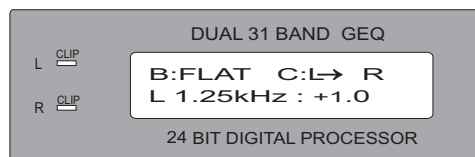
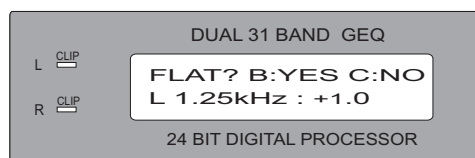
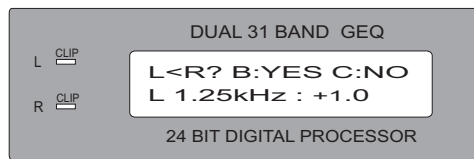

Fig.5 Editing select(Flat/Copy)
Fig.6 Flat respond setting
Fig.7 Copy function
5. Press button 5 during main menu (as Fig. 5) to enter Flat respond and gain level for frequency respond with L, R copy selection. Select B (as Fig. 6) to set 0 dB gain for Flat respond. Select C to exist to main menu and disable the program.
5. Press button 5 during main menu (as Fig. 5) and select C to enter COPY frequency from Left channel to Right channel. Display as Fig. 7 : Press B to copy gain level of left channel to right channel. Display back to main menu: Press C to disable operation.